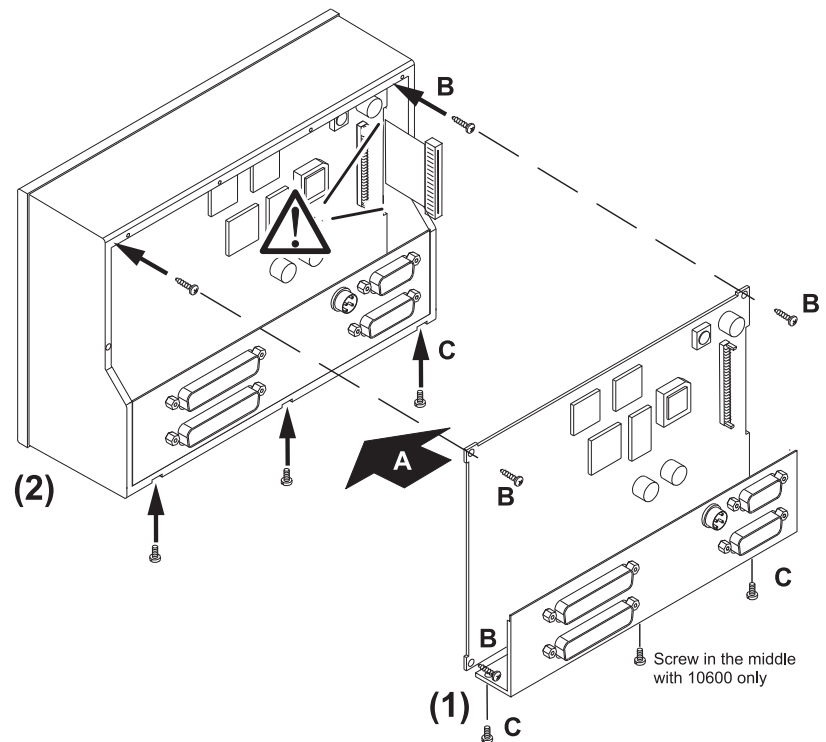

Fig. E 7-10: Remounting the main pcb and the connector panel
10. Place the main pcb with the attached connector panel back to its holder bases (A). Take care about the wiring of the connecting flat cable. It has to be directed through the right sided gap of the pcb without clamping and may only stick out for about 1 - 2 cm maximum. Avoid damage because of canting. Now first fasten the main pcb with its three screws (B), then fasten the connector panel with its two (10600-PLUS, spare out the middle hole) resp. three (10600) screws from the bottom side (C). (Fig. E 7-10)